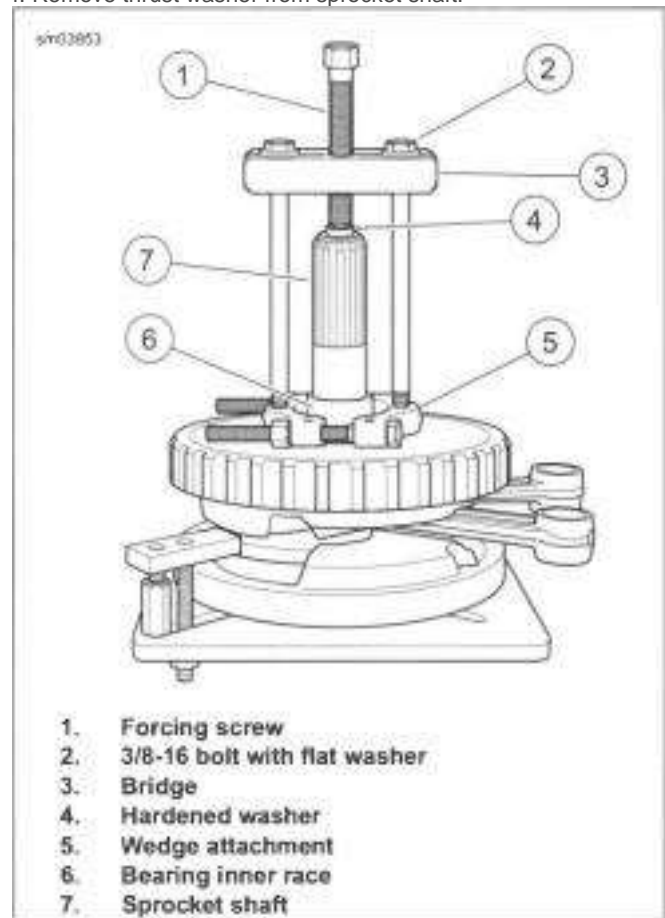

Figure 4-75. Remove Inner Race from Sprocket Shaft
2. See Figure 4-75. Install pulling tool.
- a. Position WEDGE ATTACHMENT (PART NUMBER: HD-95637-46B) (5) on inboard side of thrust washer.
4. See Figure 4-75. Remove bearing race.